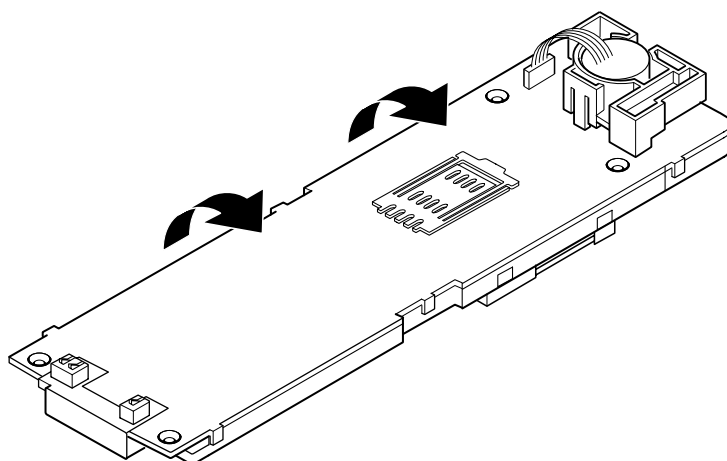

Figure 4: R board removal
4. Figure 4 Remove the R board from the C chassis